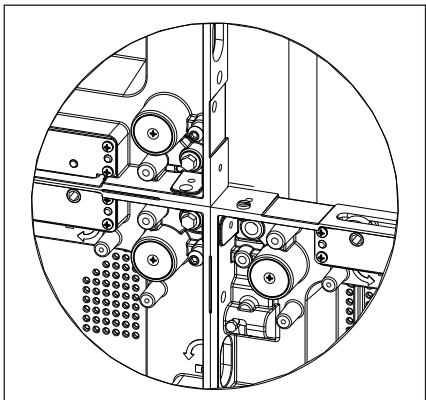

Figure 16: Align Panel Faces
4. Ensure the front edges of the panels align completely. Refer to **Figure 16**.